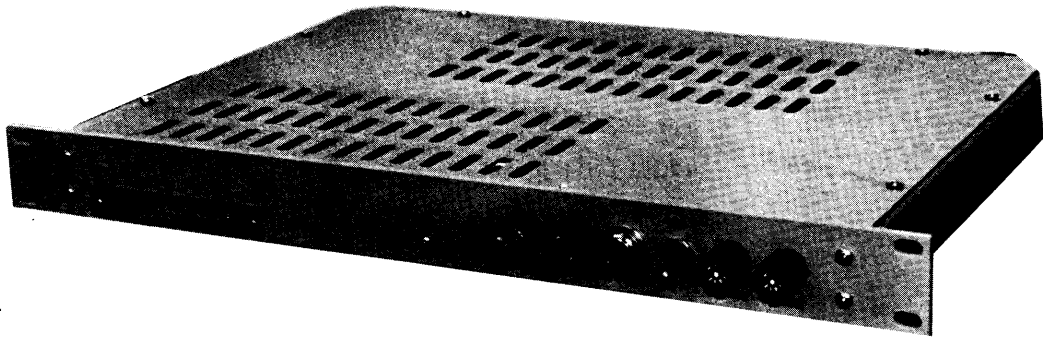

Figure 1-1
(1) The Eight Output Antenna Multicoupler, Model AMC-8A (figure 1-1) is a broadband Antenna-to-Receiver coupling device which permits the use of a common antenna by eight communications receivers. Its circuitry consists of a bandpass filter, a broadband transistorized preamplifier, and eight individual buffer amplifiers. The unit is engineered in such a way that a sizeable reduction is achieved in the amplitude of signals re-radiated from one receiver to another or from one receiver to the common antenna system. The AMC-8A is provided with a bandpass filter which passes frequencies between 2 MHz and 32 MHz.
(2) The filter attenuates all signals outside the band to avoid needless overloading of amplifiers due to large signals outside the band of interest.
(3) The amplifier including buffers, has a low noise figure and yet large signal handling capability. It yields +2 dB overall insertion gain without introducing objectionable intermodulation. In addition, it provides a constant input and output impedance for a good VSWR over 2 to 32 MHz, and high isolation between output to output or output to input to suppress re-radiation from one receiver to another or to the common antenna system.